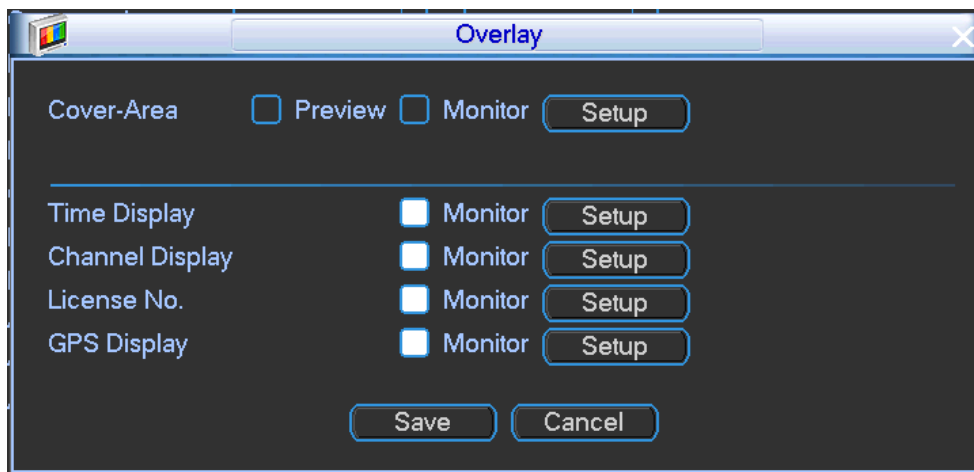

Figure 4-53
Step 1 From Main menu->Setting->Camera->Encode, click Overlay button, Enter Overlay interface. See Figure 4-53.